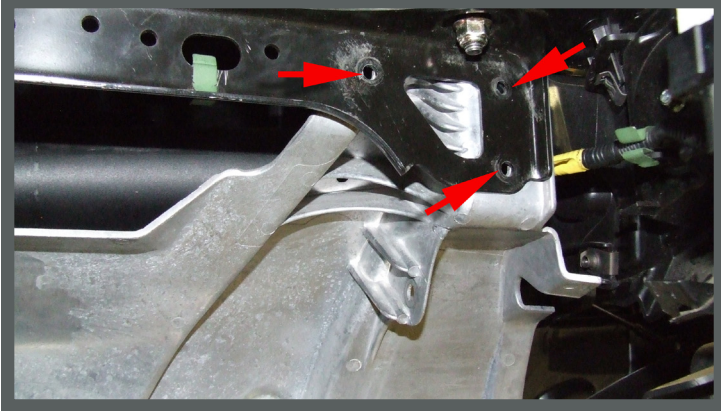

Figure 1
3. Remove the **(3) Bolts** (See Fig. 1) and **Plastic Bolt** located in the trunk. (See Fig. 2)